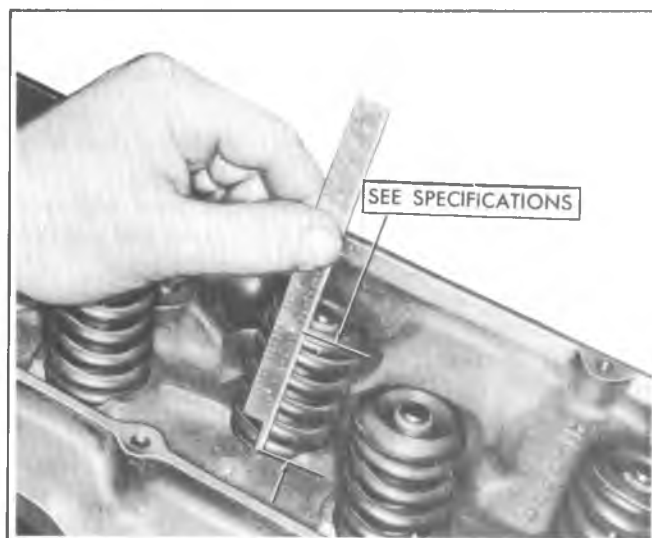

Fig. 6A5-25--Measuring Valve Spring Installed Height
4. Check the installed height of the valve springs, using a narrow thin scale. A cutaway scale will help (fig. 6A5-24). Measure from the top of the shim or the spring seat to the top of the valve spring or valve spring shield (fig. 6A5-25). If this is found to exceed the specified height, install a valve spring seat shim approximately 1/16" (1.6mm) thick. At no time should the spring be shimmed to give an installed height under the minimum specified.